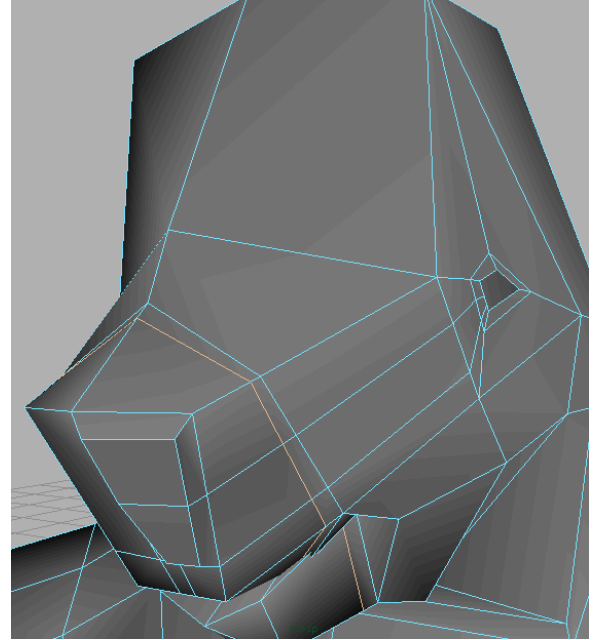

Figure 31: an edge loop is added to separate the snout from the face.
13. Use the Insert Edge Loop tool to add an edge loop around the start of the snout as shown in figure 31.